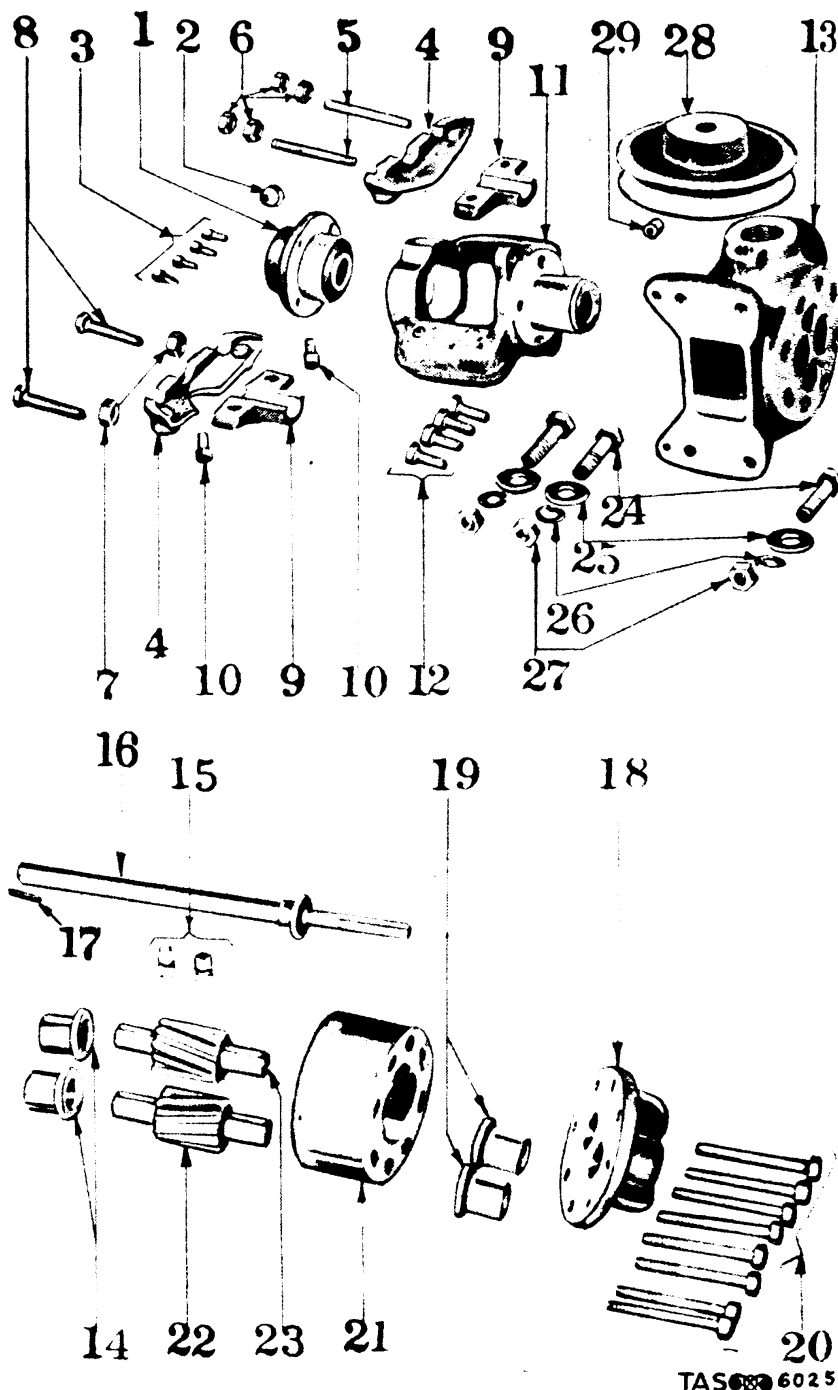

Fig. 25. Water Pump.
(2) Components of the pump are shown in figure 25. It is a rotary gear-type pump.
g. Water discharge line check valve. (1) The chief function of this valve is to make possible the flushing and cleaning of the coil assembly following each run of the generator.